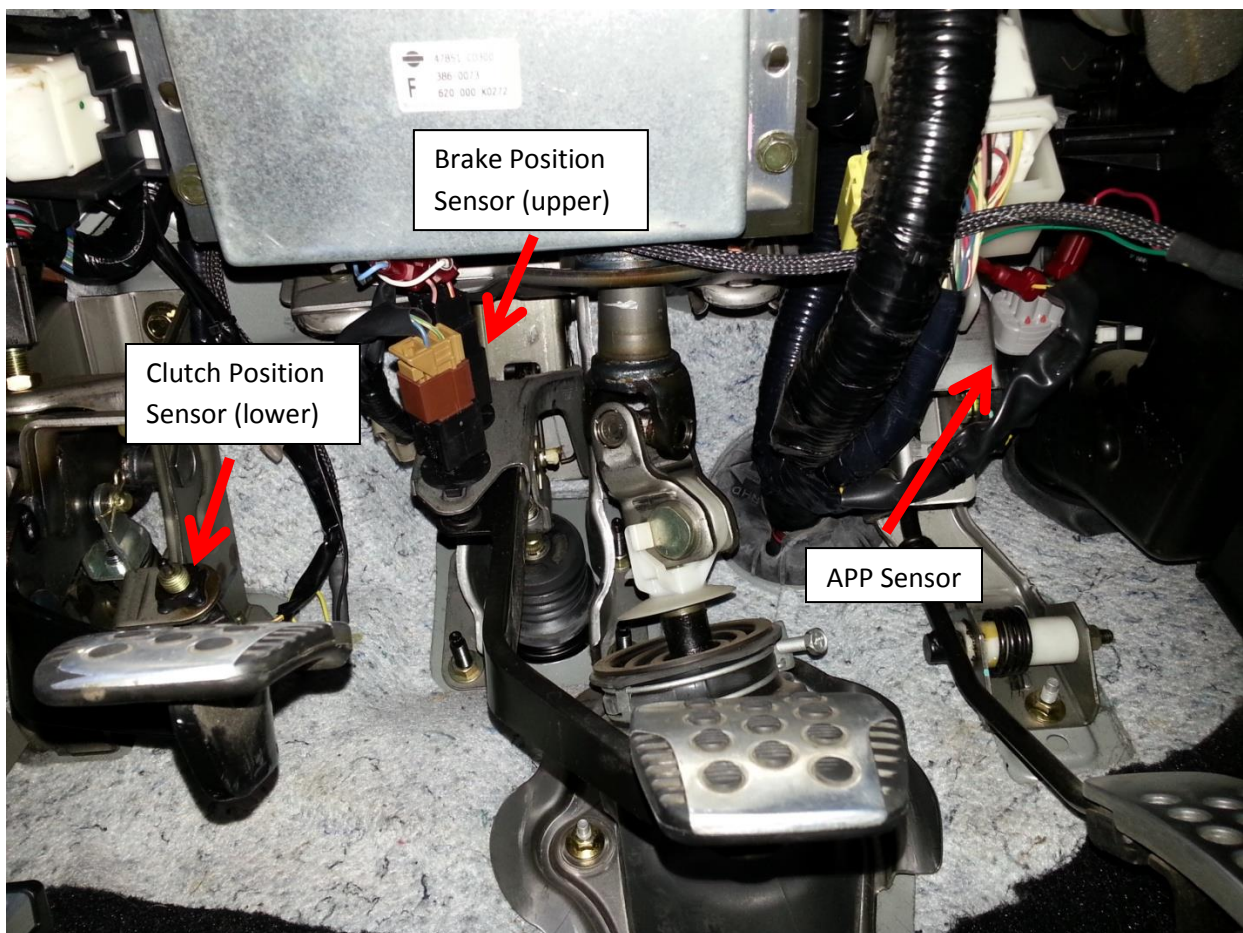

Figure 1 - Sensor Locations (for general placement purposes - pic not specific to model/YR)
1. Locate Accelerator Pedal Position Sensor (APPS) (**Figure 1**).
2. Connect the *AUTO-BLiP* Red wire and Green wire, one each to the Pink and Red wires on the APPS sensor (**Figure 1**).
3. Locate Brake Position Sensor (**Figure 1**)
5. Connect *AUTO-BLiP* Yellow wire to the Grey wire on the clutch safety interlock sensor (**Figure 1**).